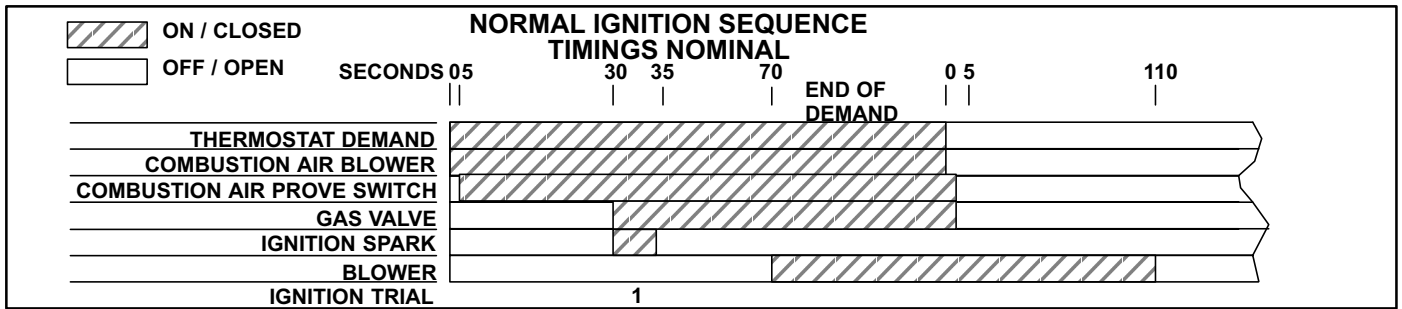

FIGURE 21
- c- The ignition control provides three main functions: gas valve control, ignition and flame sensing. It is powered only after the combustion air prove switch has closed. The ignition attempt sequence provides three trials for ignition before locking out. The blower control (K25) is energized simultaneously with the gas valve, so the blower will energize 30 to 45 seconds after flame has successfully been established. The unit will usually ignite on the first attempt. See figure 21 for a normal ignition sequence with nominal timings for simplicity.